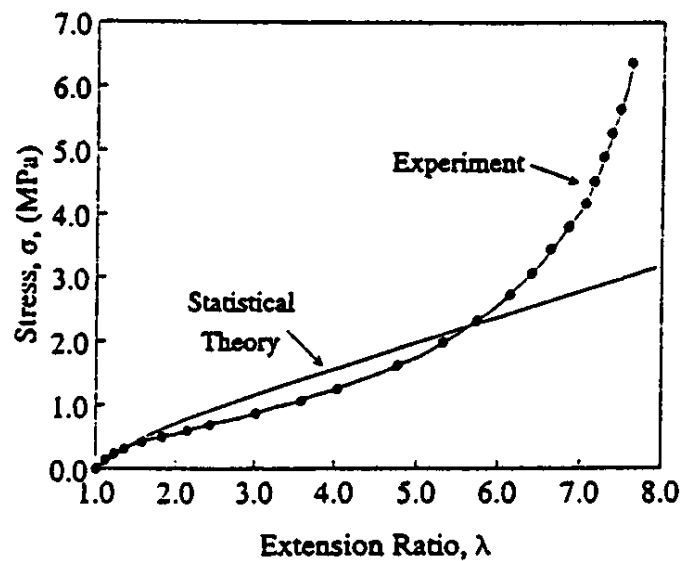

Figure 1: Comparison of force-deformation behavior for rubber based on statistical theory and experimental.
1. [a] Based on Figure 1 below, explain the deviation of experimental with the statistical theory prediction of elastic behaviour of rubber. Suggest the suitable theory/theories to explain the stress-strain behaviour of rubber.